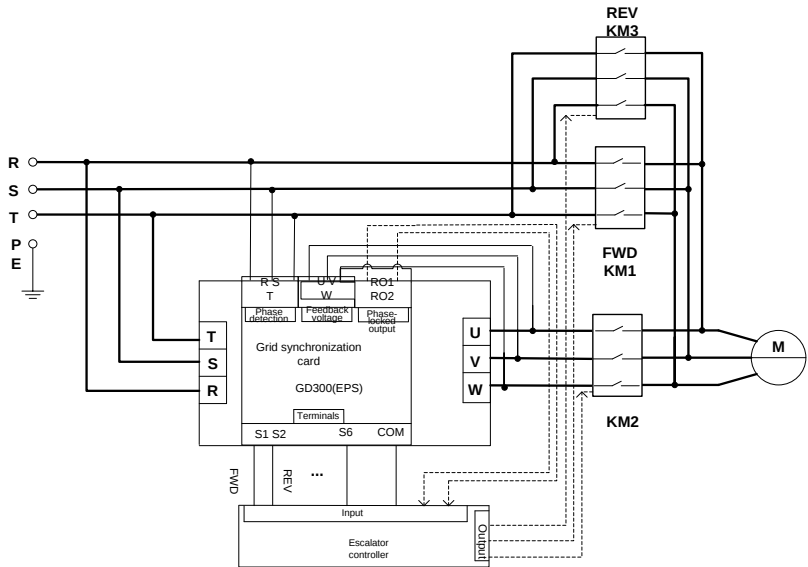

Figure 4.15 Escalator controller contactor system diagram
- The following debugging steps are in accordance with Figure 4-15 wiring preparation.